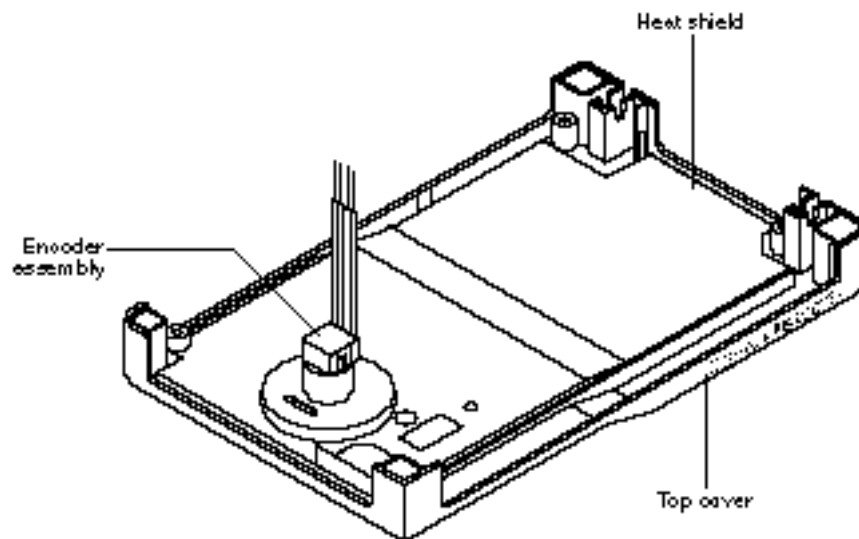

Figure 6-10: Knob Encoder Disassembly
1. Complete the procedure in paragraph 6.10. The top cover appears as illustrated in Figure 6-10.
4. Replace the control knob assembly with the elastomeric washer closest to the plastic chassis. Torque nut to 10 inch-pounds. Replace the heat shield and white plastic insulator as illustrated in Figure 6-10.